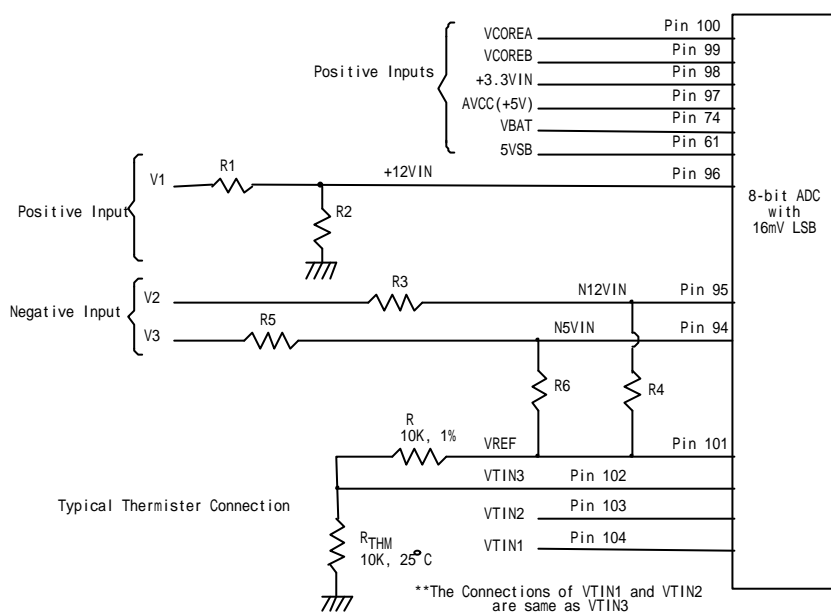

Figure. 9.2
The maximum input voltage of the analog pin is 4.096V because the 8-bit ADC has a 16mv LSB. Really, the application of the PC monitoring would most often be connected to power suppliers. The CPU V-core voltage ,+3.3V ,battery and 5VSB voltage can directly connected to these analog inputs. The +12V,-12V and -5V voltage inputs should be reduced a factor with external resistors so as to obtain the input range. As Figure 9.2 shows.
The negative voltage should be connected two series resistors and a positive voltage VREF (is equal to 3.6V). In the Figure 9.2, the voltage V2 and V3 are two negative voltage which they are -12V and -5V respectively. The voltage V2 is connected to two serial resistors then is connected to another terminal VREF which is positive voltage. So as that the voltage node N12VIN can be obtain a posedge voltage if the scales of the two serial resirtors are carefully selected. It is recommanded from Winbond that the scale of two serial resistors are R3=232K ohms and R4=56K ohm. The input voltage of node N12VIN can be calculated by following equation.
The W83697HF can connect three thermistors to measure three different environment temperature. The specification of thermistor should be considered to (1)  $\beta$  value is 3435K, (2) resistor value is 10K ohms at 25°C. In the Figure 9.2, the thermistor is connected by a serial resistor with 10K Ohms, then connect to VREF (Pin 101).